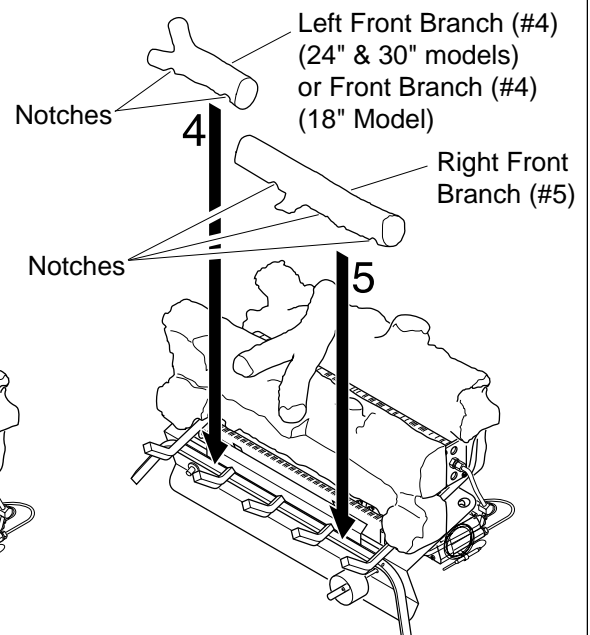

Figure 19 - Installing Left Front Branch and Right Front Branch
4. Place left front branch (#4) and right front branch (#5) (24" and 30" models) or front branch (#4) (18" model) into place (see Figure 19). Make sure notches on bottom rest on grates.